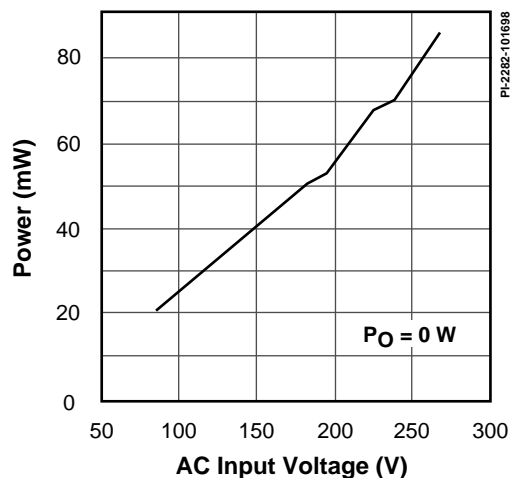

Figure 15. No Load Power Consumption.
**No Load Power Consumption** - Figure 15 shows no load power consumption as a function of input voltage. The no load power consumption for the RD8 is only 10 to 20% of the standby power consumption of a typical linear power supply.